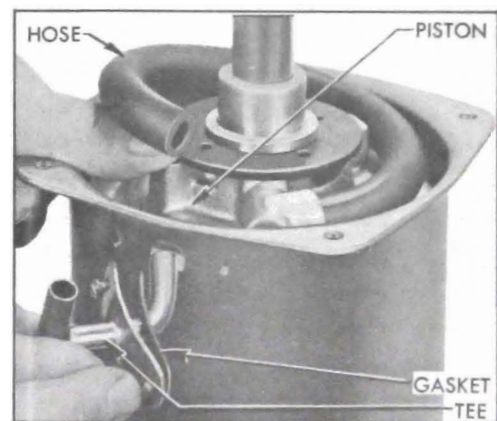

Figure 9-17—Removing Vacuum Tee
4. Remove housing cover bolts, cover, and gasket. While holding power piston down, disconnect vacuum hose from vacuum tee and remove tee and gasket from housing. See figure 9-17. *Slowly* release power piston to control the pressure of piston return springs as piston and attached parts emerge from housing. Make sure that lip of leather piston cup does not catch in holes in housing.